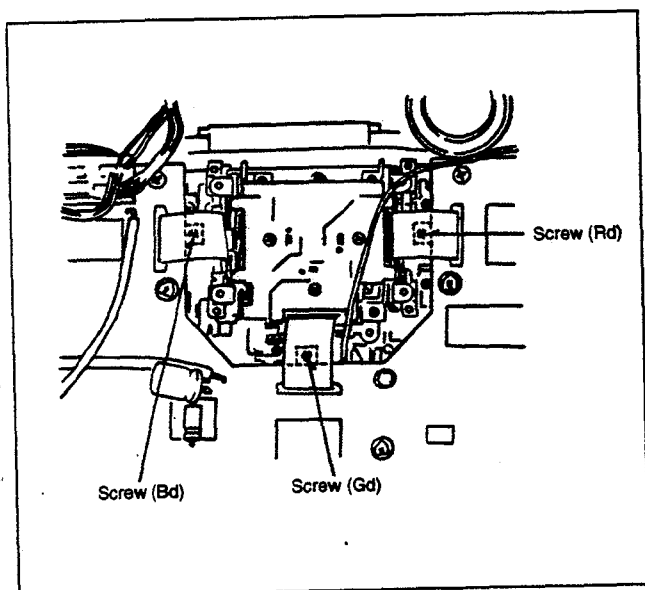

Fig. 6
6. Loosen a screw (Gd). (See Fig. 6)
10. Loosen a screw (Bd). (See Fig. 6)